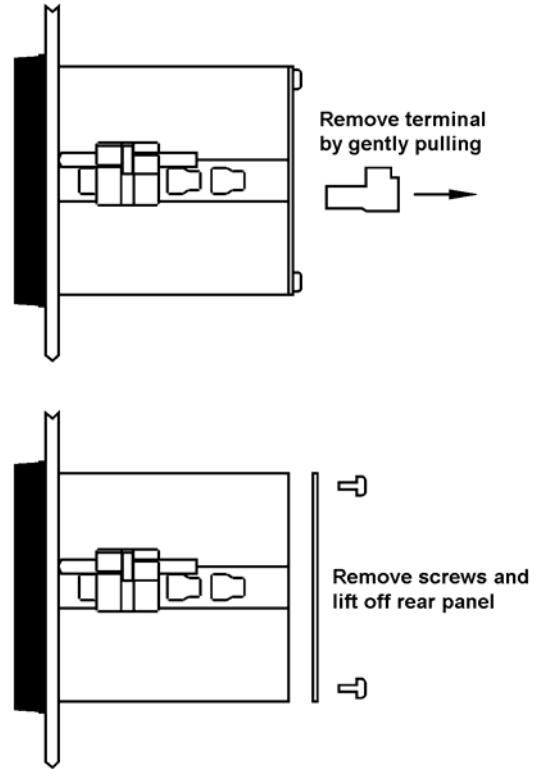

Fig 6 Removal of rear panel
Both instruments are conditioned and calibrated by plug-in links and two multi-turn potentiometers. The potentiometers are accessible through holes in the rear panel, but the rear panel must be removed to gain access to the plug-in links - see Fig 6.
- Remove the rear terminal block and the rear panel as shown in Fig 6.